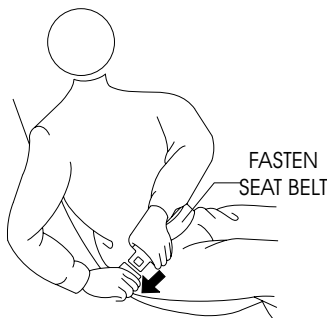

Figure 17. Securing Seat Belt
2. Sit down in the operator's seat and adjust the seat for a comfortable position, then fasten the seat belt (Figure 17) around your waist. **NEVER** operate the roller without the seat belt being fastened. Serious injury could occur if the seat belt is not used.